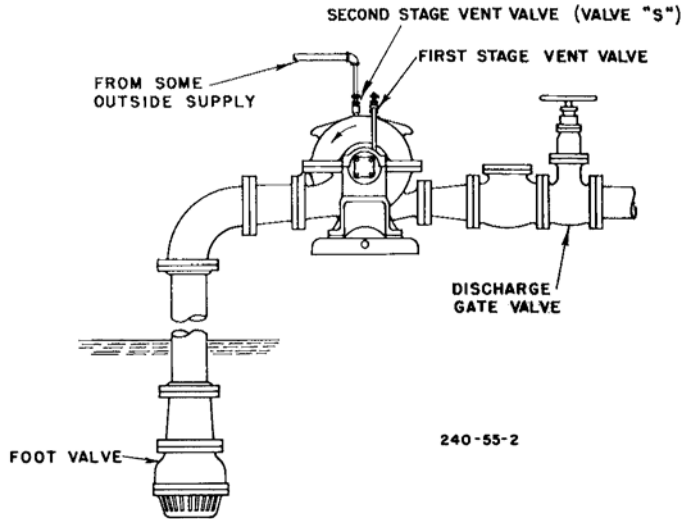

Figure 21:
- a) From Some Outside Supply see Figure 21: on page 30.